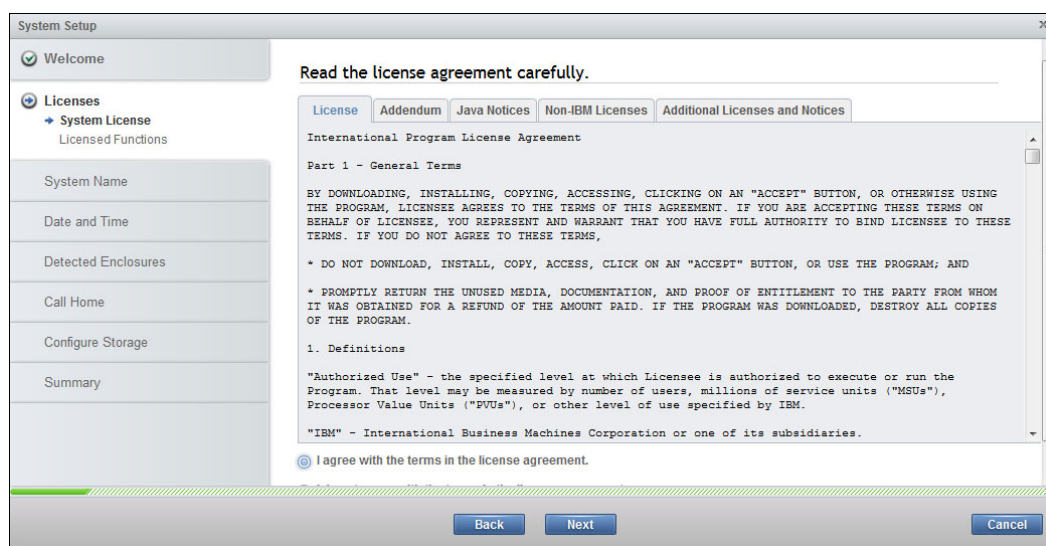

Figure 2-16 Setup wizard: License Agreement
4. Read and accept the license agreement (Figure 2-16).